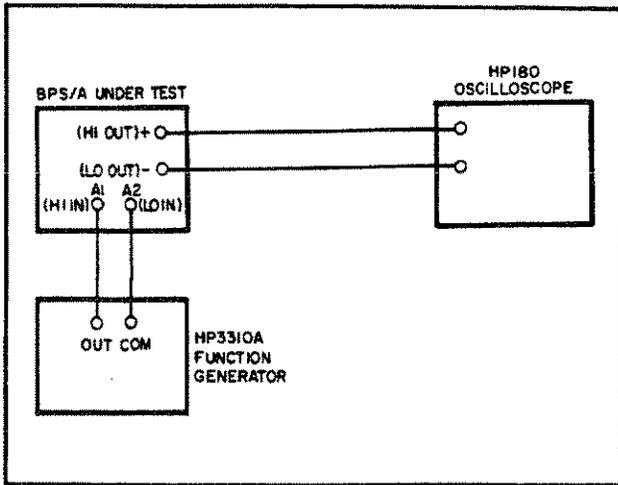

Figure 5-6. Programming Speed, Test Setup
- a. Connect test setup as shown in Figure 5-6.